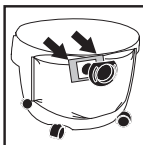

FIGURE 21
29. Grasp cardboard collar firmly and slide rubber guard onto inlet fitting as far as possible. **FIGURE 21.**